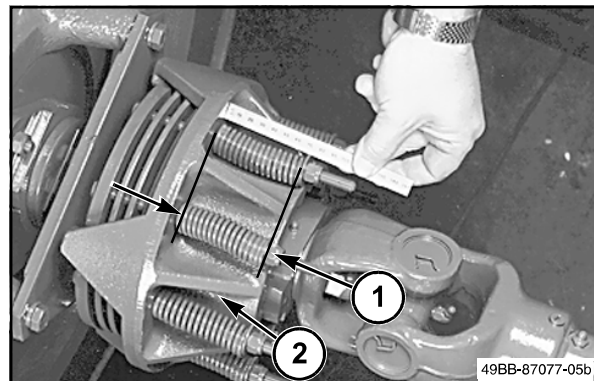

FIG. 2
FIG. 2: When properly adjusted, the main drive slip clutch will slip slightly as the plunger goes over the extreme back position during a compaction stroke. The clutch springs must be adjusted to 73 mm (1). After one hour of continuous operation, the clutch housing (2) will be warm (not hot) to the touch. The clutch springs must be adjusted if the clutch housing is not warm. DO NOT completely compress the clutch springs.